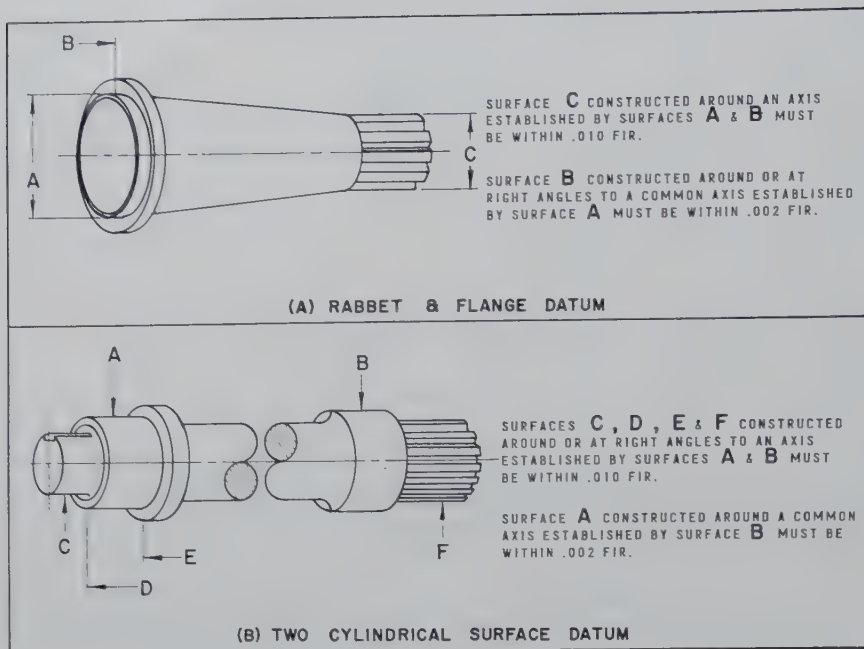

FIG. 5 DATUM AXIS
2. A Cylinder and Plane. Another simple and commonly used datum system is one which makes use of a cylinder and a plane perpendicular to the axis of the cylinder such as a rabbit diameter and a flange as shown in Fig. 5(A). The application of this datum system to a bearing housing and a mating bore in a gear casing is shown in Fig. 6. Surfaces A and B are the mating cylindrical surfaces and surfaces C and D are the two mating planes.
4. Two Cylinders on Common Axis. In many designs a datum axis is established by two cylinders constructed around a common axis, and having substantial axial separation. As an example of this note the two journal surfaces at each end of the long shaft shown in Fig. 5(B). This type of datum is commonly used to control the runout of surfaces constructed around or at right angles to the common axis.